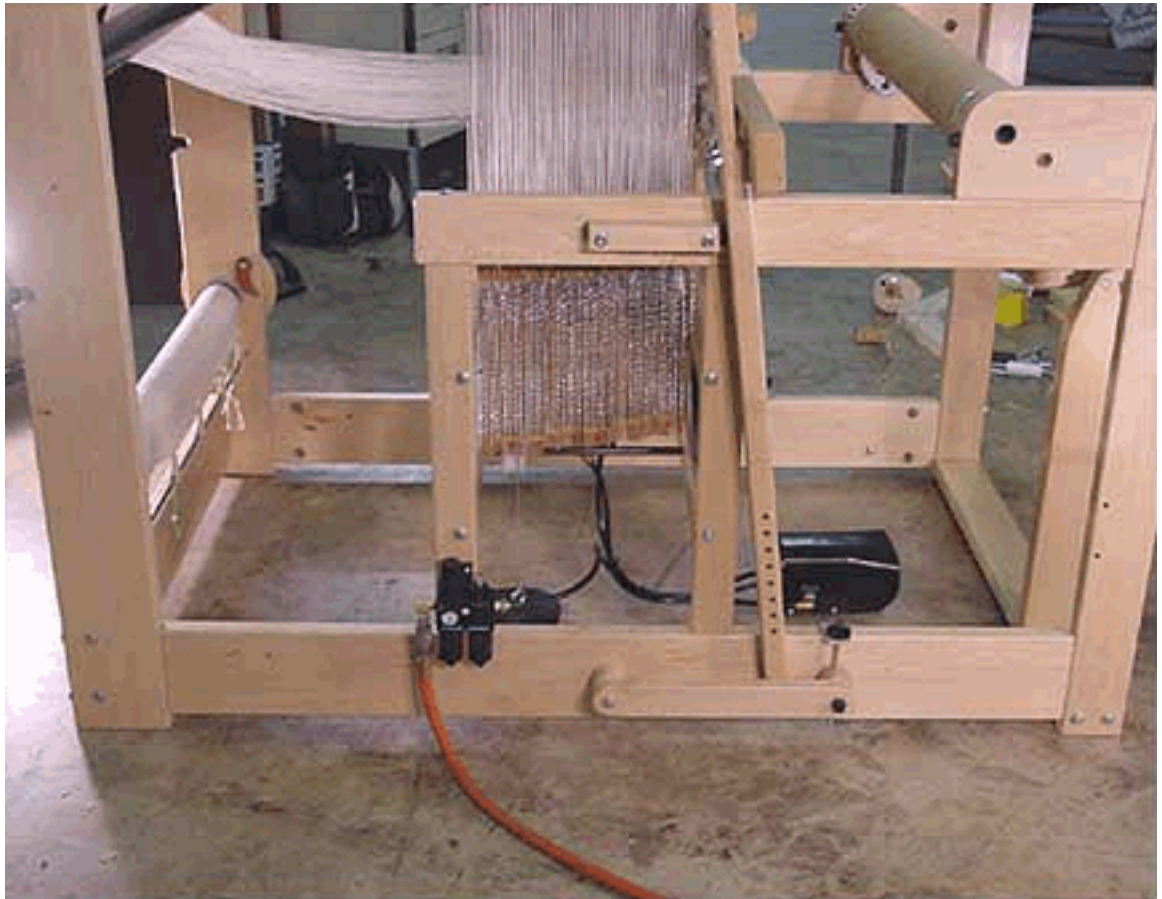

FIGURE 51: AVL 40 (left side) WITH AIRLIFT
- 2.) Use the remaining screws to install the Filter/Regulator (FR) to the left rear side support as shown Figures 51 and 52.